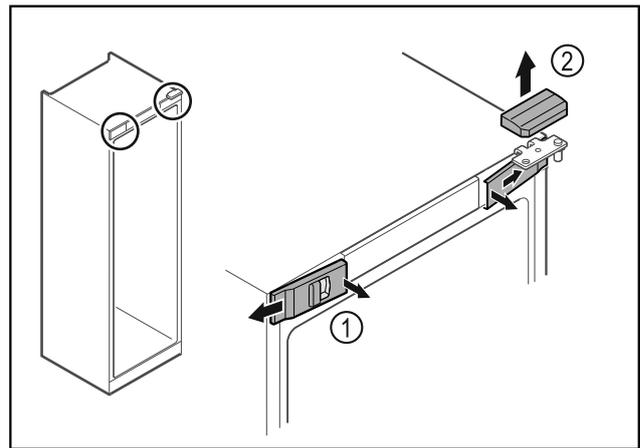

Fig. 4
- ▶ Unlatch the front covers Fig. 4 (1) on the inside and remove them sideways.
- ▶ Lift off the upper cover Fig. 4 (2).